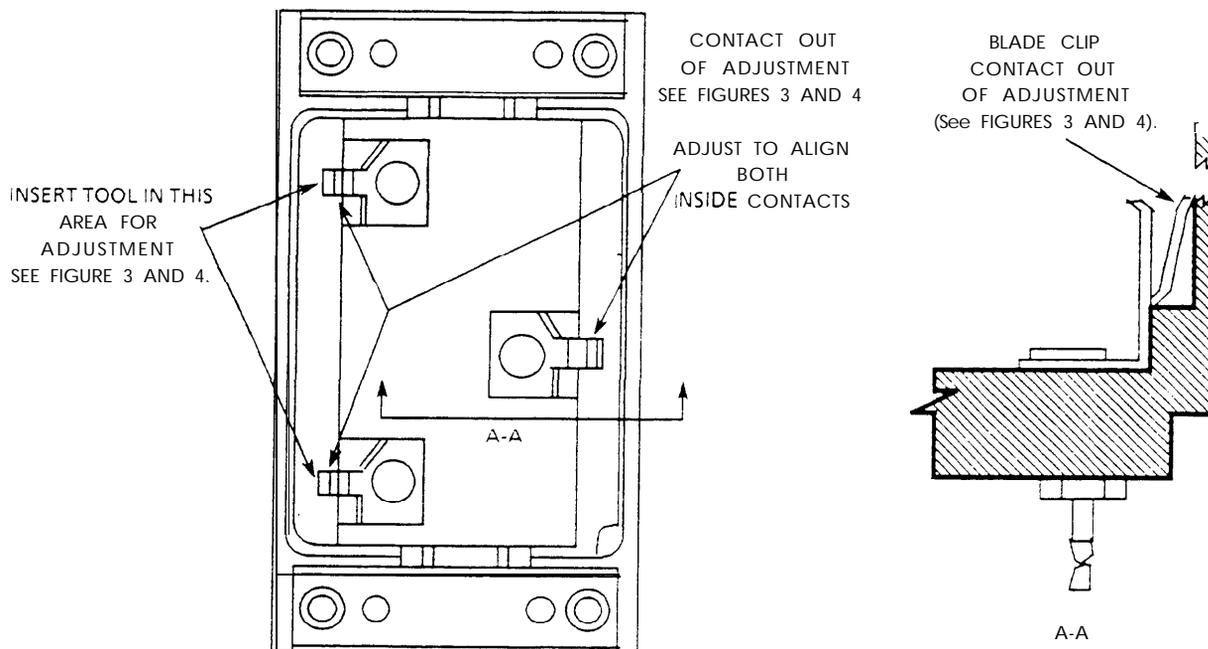
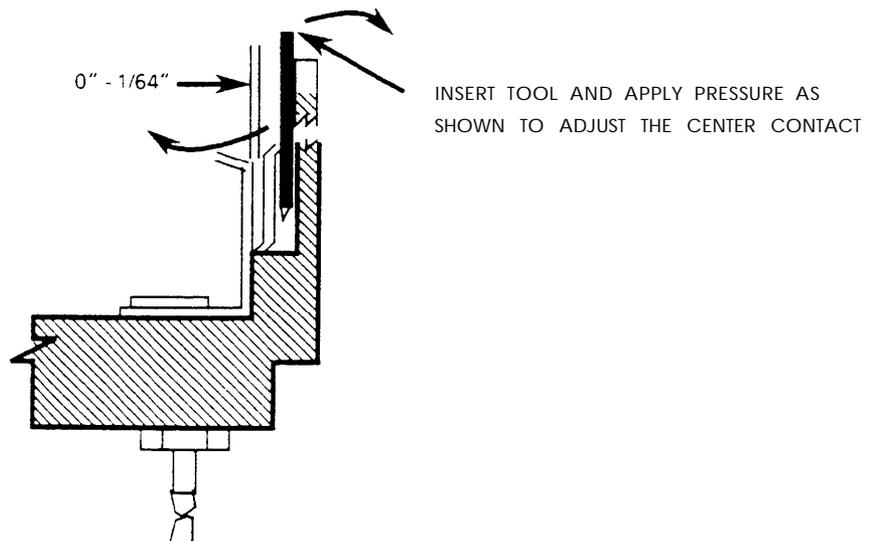
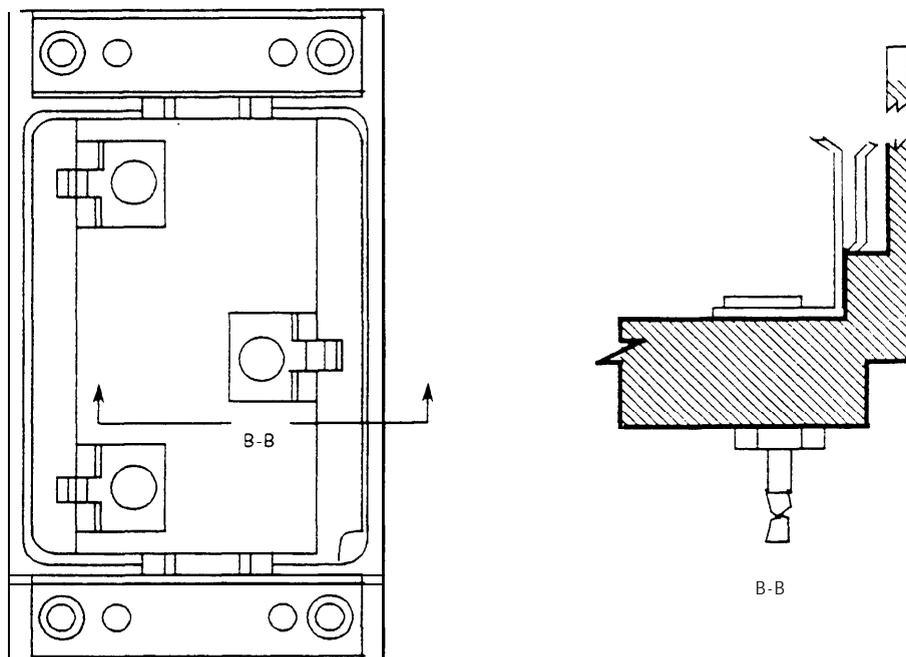

Figure 2. View of Blade Clips Showing Misaligned and Improper Contact Adjustment.
Figure 3. Adjustment of Blade Clip Center Contact.
Figure 4. View of Blade Clips Showing Normally Aligned and Adjusted Position.
- (1) See Figure 2 for of typical improper adjustments. See Figure 3 for the adjustment procedure and Figure 4 for illustrations of properly adjusted blade clips.
- (b) If the blade clips are not parallel to the side of the housing and aligned with one another, they should be adjusted before the switch is on-line. The two parts of the clip must align with one another as shown in Figure 4.
- (c) Adjust the center portion of the blade clip with an insulated tool. See Figure 4 and section B-B for the proper position and dimension relative to the two-part portion of the clip. The dimensions shown are as judged by eye.